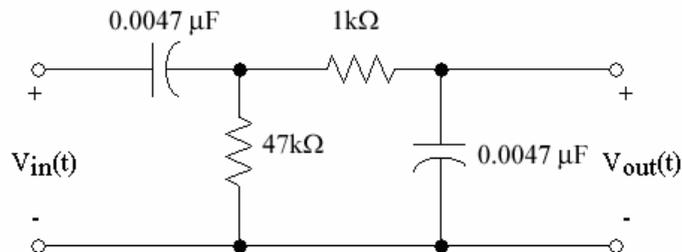
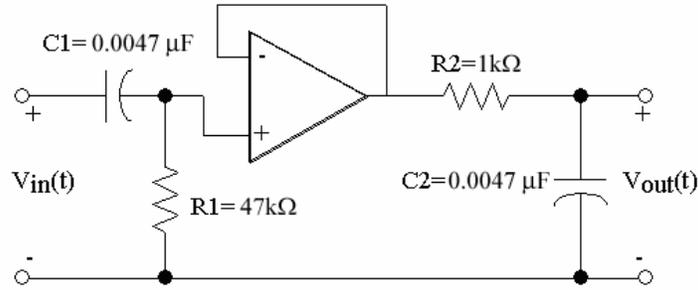

Figure 1. Band pass filter.
Figure 2. Buffered Band pass filter
You should have built and measured the performance of a band pass filter that consisted of a high pass filter in series with a low pass filter, as shown in Figure 1, in the previous lab. The frequency response for this filter is significantly different from a simple sum of the separate filter responses since the second circuit loads the first. One of the great applications of the operational amplifier is to use an op amp buffer amplifier to isolate two circuits so that the second is not loaded by the first. In this lab you will examine a bandpass filter where the two filter sections are isolated by inserting an op amp buffer, as shown in Figure 2.
The transfer function, H(j $\omega$ ), for the buffered band pass filter shown in Figure 2 can be mathematically shown to be
1. Build the circuit shown in Figure 2. Use a 741 op amp and **be sure to connect the power supply**. Use  $\pm 15V$  for  $\pm V_{CC}$ . You should check the operational status of the 741 before using it. (The pinout diagram for the 741 is shown in Figure 7.)